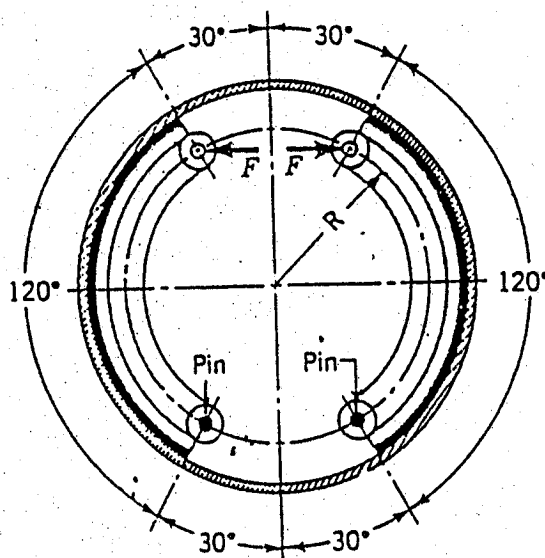

FIGURE 6
6. An internal expanding-rim-type brake is shown in Figure 6. The drum diameter is 250 mm,  $R$  is 100 mm and the shoe face width is 50 mm. The material used has a coefficient of friction of .24 and permits a maximum pressure of 1.2 MPa.
- i) Calculate the actuating force. (8)
- ii) Calculate the braking capacity. (6)
- iii) Calculate the hinge pin reactions. (6)